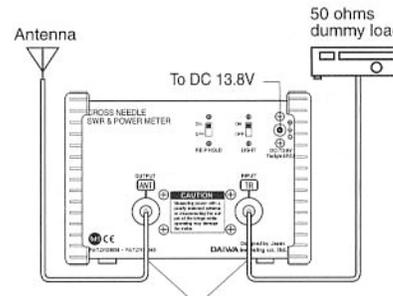

Fig. 1 50 ohms coaxial cable
2. For accurate power measurements, use 50 ohms pure resistance dummy load.(Fig.1)